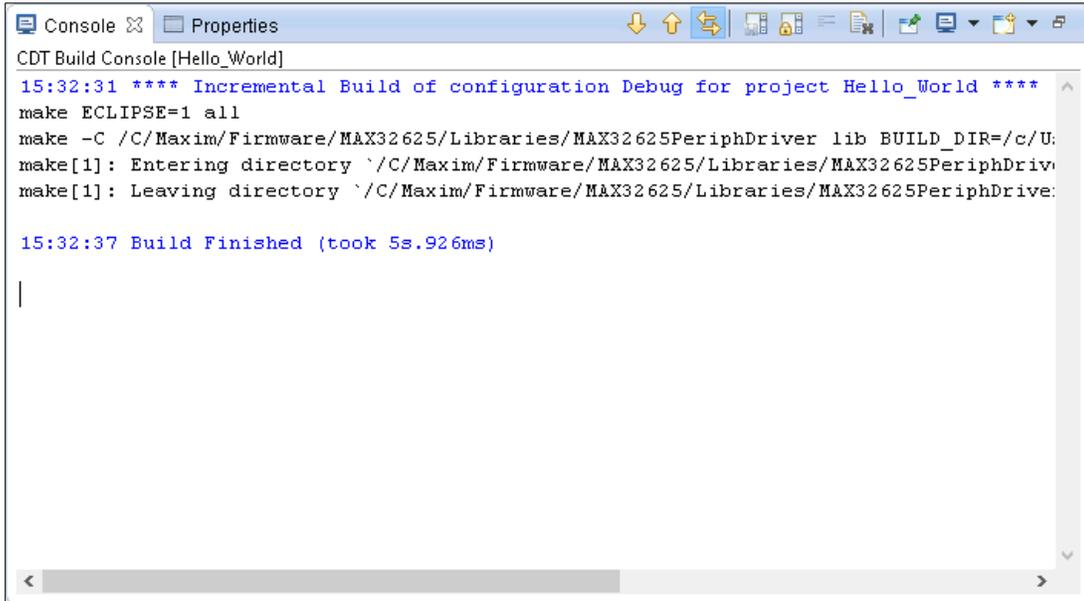

Figure 5. Console tab showing build results for Hello_World.
3. Select **Window > Show View > Console**. The results of the build appear on the **Console** tab, as shown in **Figure 5**.